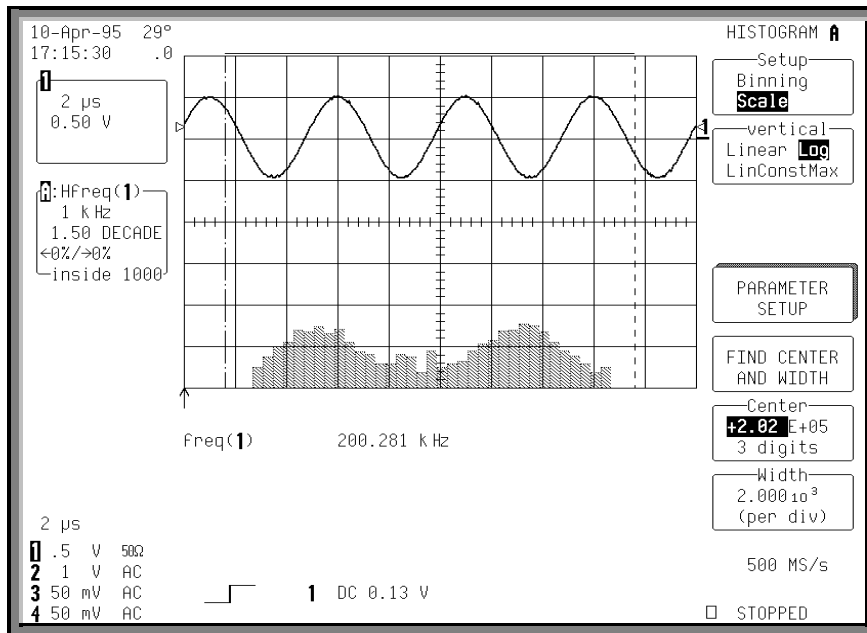

Figure 2.5
**Log** sets the vertical scale as logarithmic (Fig 2.5). Because a value of '0' cannot be specified logarithmically, no baseline is provided.